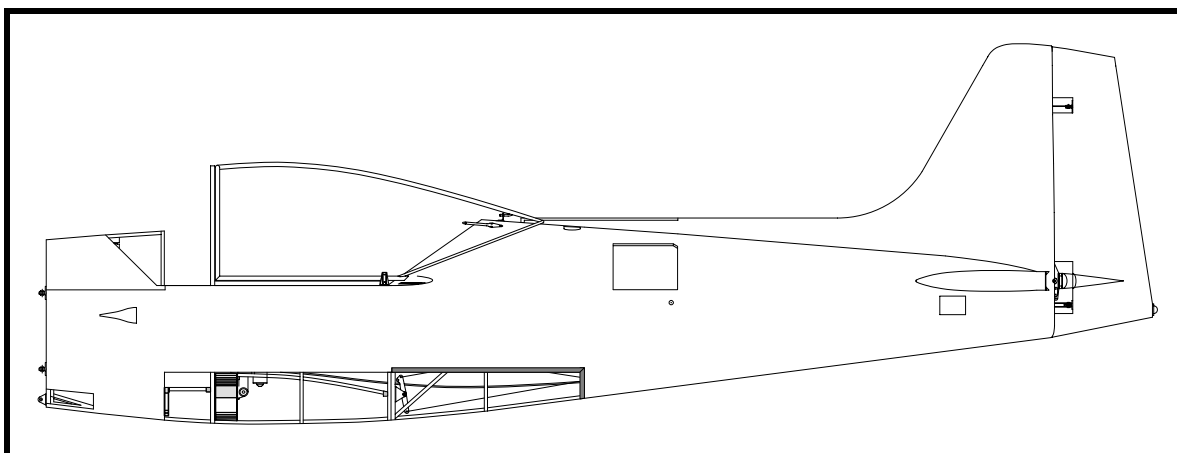

Figure 48
- ☐ Skin the fuselage between Sta. 1 and the Sta. 2 diagonal frame as shown in Figure 48.